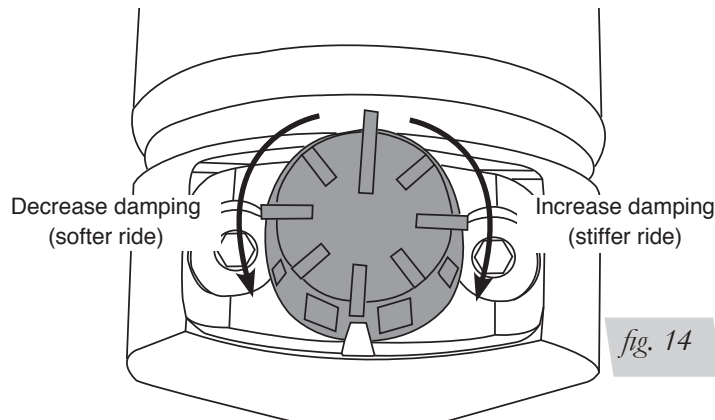

fig. 14
1. Some struts for this vehicle come with a nine-position damping dial for added adjustability (fig. 14). If not, proceed to 2.